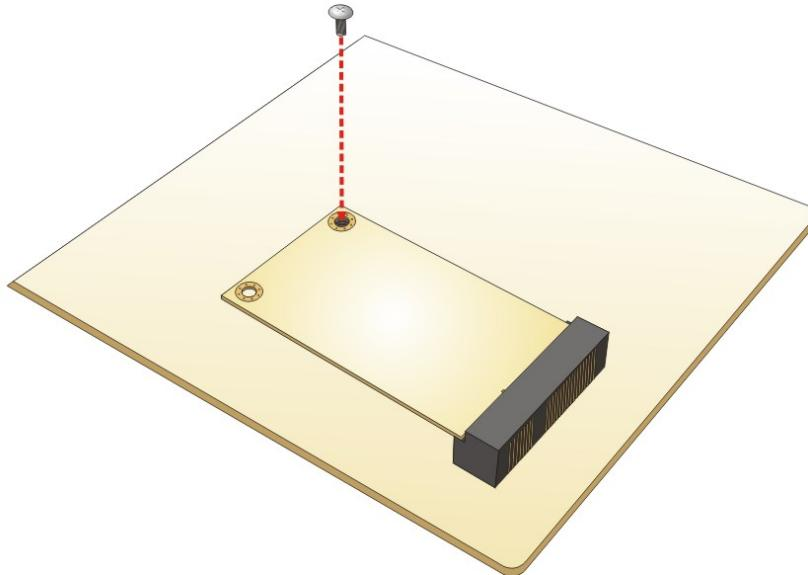

Figure 4-4: Securing the PCIe Mini Card
Step 4: Secure the PCIe Mini card. Secure the PCIe Mini card with the retention screw previously removed (**Figure 4-4**).